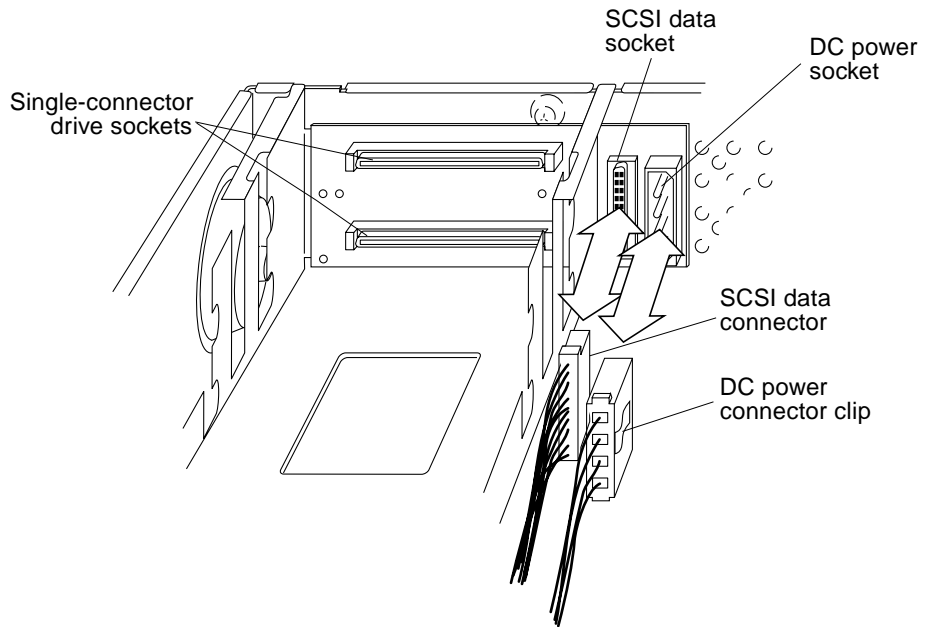

FIGURE 8-26 SCSI Backplane Sockets and Connectors
4. Disconnect the SCSI backplane sockets and connectors as follows (FIGURE 8-26):
2. Connect the SCSI data connector and the DC power connector clip into the SCSI data socket and the DC power socket, respectively (FIGURE 8-26).